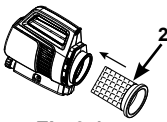

Fig 3.1
1. Insert the filter bag with gasket (2) into the vacuum body (1). See fig 3.1.